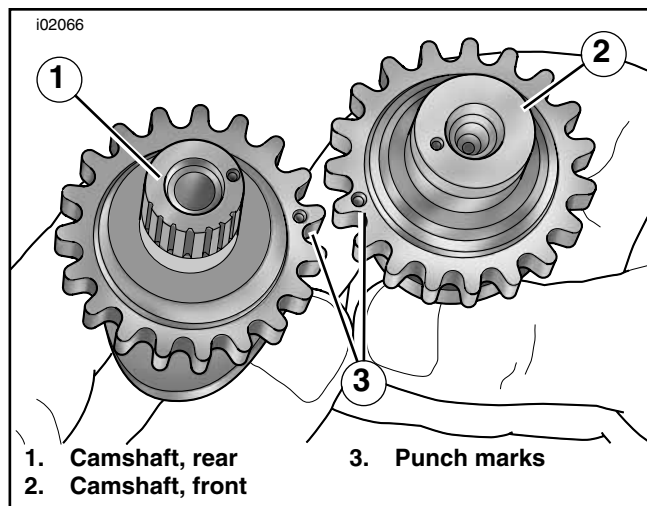

Figure 6. Align Punch Marks on Teeth of Camshaft Sprockets
6. See Figure 6. Align punch marks (3) on teeth of secondary cam sprockets (outboard faces). Using a colored marker, carefully mark the punch mark (3) locations on the inboard side of the sprocket teeth. These marks are needed to observe proper orientation of the camshafts when they are pressed into the bearings.
7. Place the secondary cam chain around the sprockets of both the front (2) and rear (1) camshafts. To maintain the original direction of rotation, be sure that the colored mark placed on the chain link during disassembly is facing opposite the cam support plate during installation.